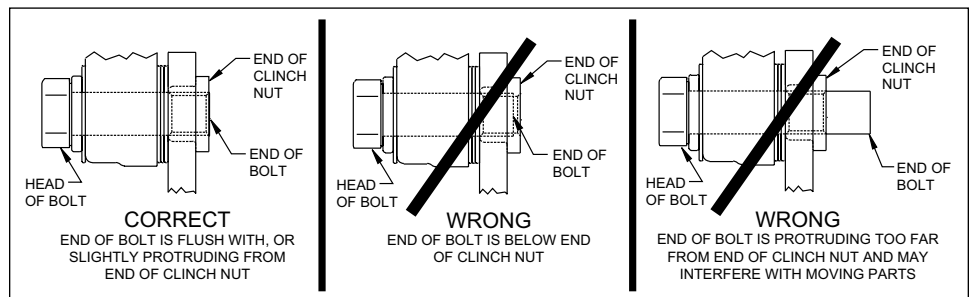

Figure 4. Clinch Nut Engagement Diagram
**CAUTION:** All mounting bolts must fully engage clinch nuts. Be sure to check that all bolts are either flush or protruding through flanged side of clinch nut after shimming, Figure 4.
Always use the same amount of shims on each of the two mounting bolts. **NOTE:** The end of each bolt must be flush with or slightly protruding from the head of the clinch nut, as shown in Figure 4. If necessary place spare shims between washer (6) and caliper mounting ear to achieve the proper clinch nut engagement. Once the caliper alignment and clinch nut engagement are correct, remove the bolts one at a time, apply red *Loctite*® 271 to bolt threads, and torque to 40 ft-lb.